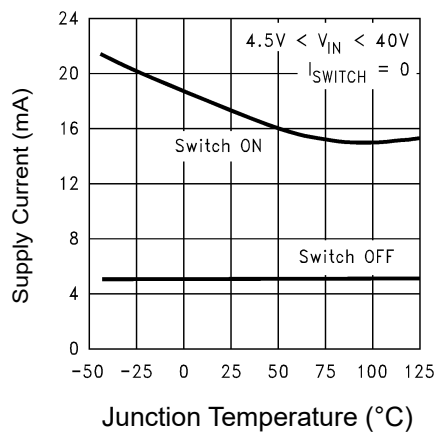

Figure 7: Quiescent Current
B. Use the $E \cdot T$ value from the previous formula and match it with the $E \cdot T$ number on the vertical axis of the Inductor Value Selection Guide shown in Figure 7.